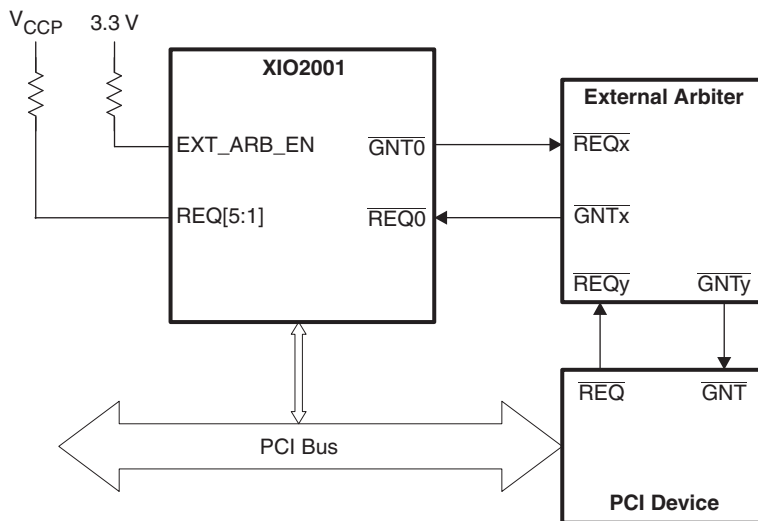

Figure 26. External Arbiter Connections
- The XIO2001 supports an external PCI bus arbiter. When $\overline{\text{PERST}}$ is deasserted, the logic state of the EXT_ARB_EN pin is checked. If an external arbiter is required, EXT_ARB_EN is connected to V_{DD_33} . When connecting the XIO2001 to an external arbiter, the external arbiter's REQ signal is connected to the XIO2001 0 GNT output terminal. Likewise, the GNT signal from the external arbiter is connected to the XIO2001 0 REQ input pin. Unused REQ signals on the XIO2001 should be tied together and connected to V_{CCP} through a pull-up resistor. When in external arbiter mode, all internal XIO2001 port arbitration features are disabled. Figure 26 illustrates the connectivity of an external arbiter.